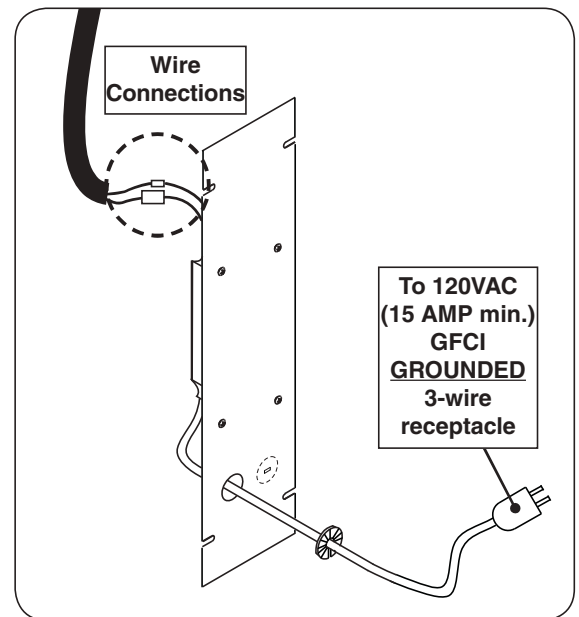

Fig. 19-2 Connect: Wires, Plate, Power
**To connect the power supply box,** connect the wires coming from the power supply to the wire harness extension as shown in Fig. 19-2.